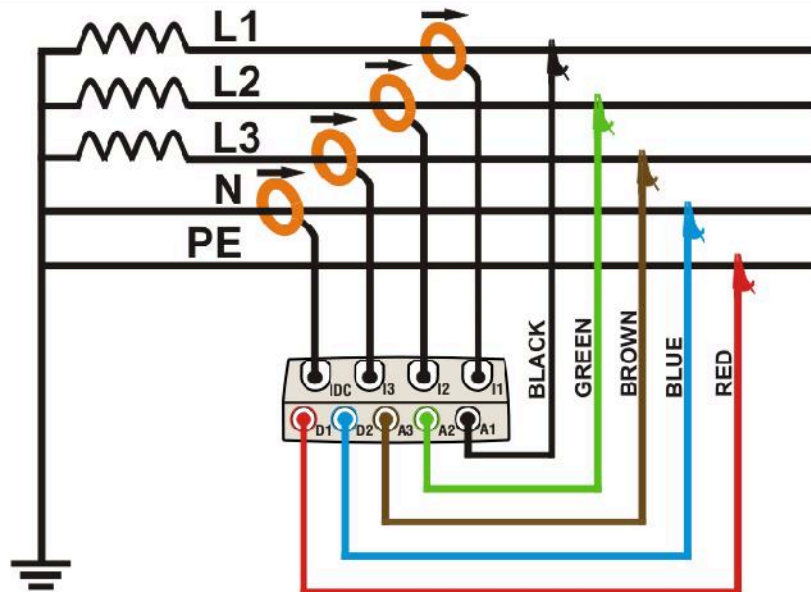

Fig. 166: Meter connection in a three phase 4-wire system
2. Connect voltage test leads on Phases L1, L2, L3, Neutral and Ground cables considering the colours as shown in Fig. 166. **Verify the result "123" at display relative to a correct phase sequence indication** (see § 5.2.4.1) and perform the corrections if necessary.
3. Connect the transducer current clamps on Phase L1, L2, L3 and Neutral N cables as shown in Fig. 166 respecting the clamp's arrow direction indicating the current standard sequence from generator to load. **On Real Time Values' section screens always verify the positive value of Active Power and the power factor relative to each load which should be normally inductive** before starting a recording. Reverse the clamp by 180 degrees on cables in case of negative readings.